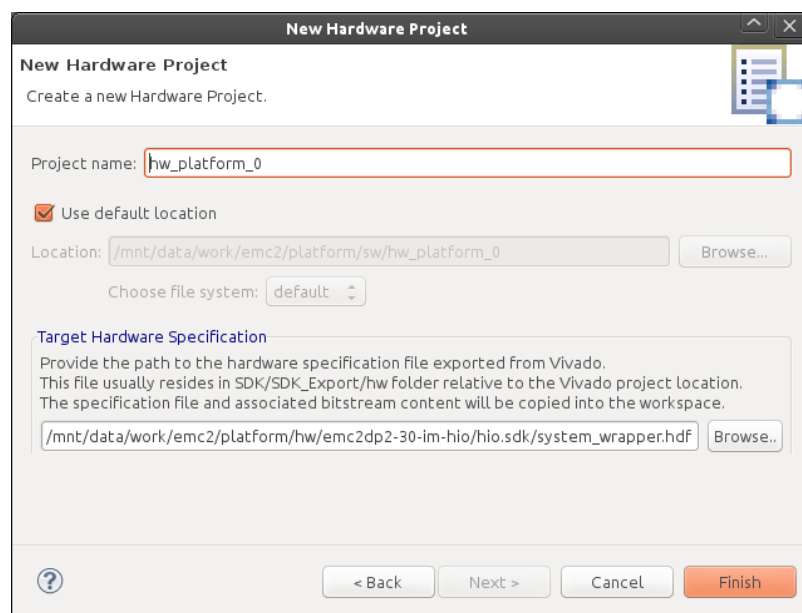

Figure 4: Create a new hardware platform specification project.
2. Create a new project with hardware platform specification, chose menu *File→New→Project...→Xilinx→Hardware Platform Specification*, set project name to *hw\_platform\_0* and browse to HDF file (folder *hw/emc2dp2-30-im-hio/hio.sdk*), see Figure 4.